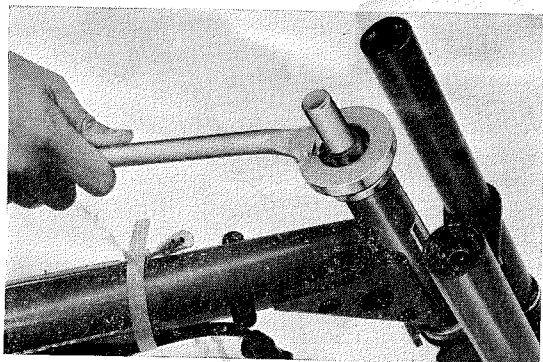

Fig. 65 Top cone race removal
8. Unscrew the steering top cone race with the special tool (Tool No. 07053-11401) and then drop the front fork assembly out the bottom. (Fig. 65)